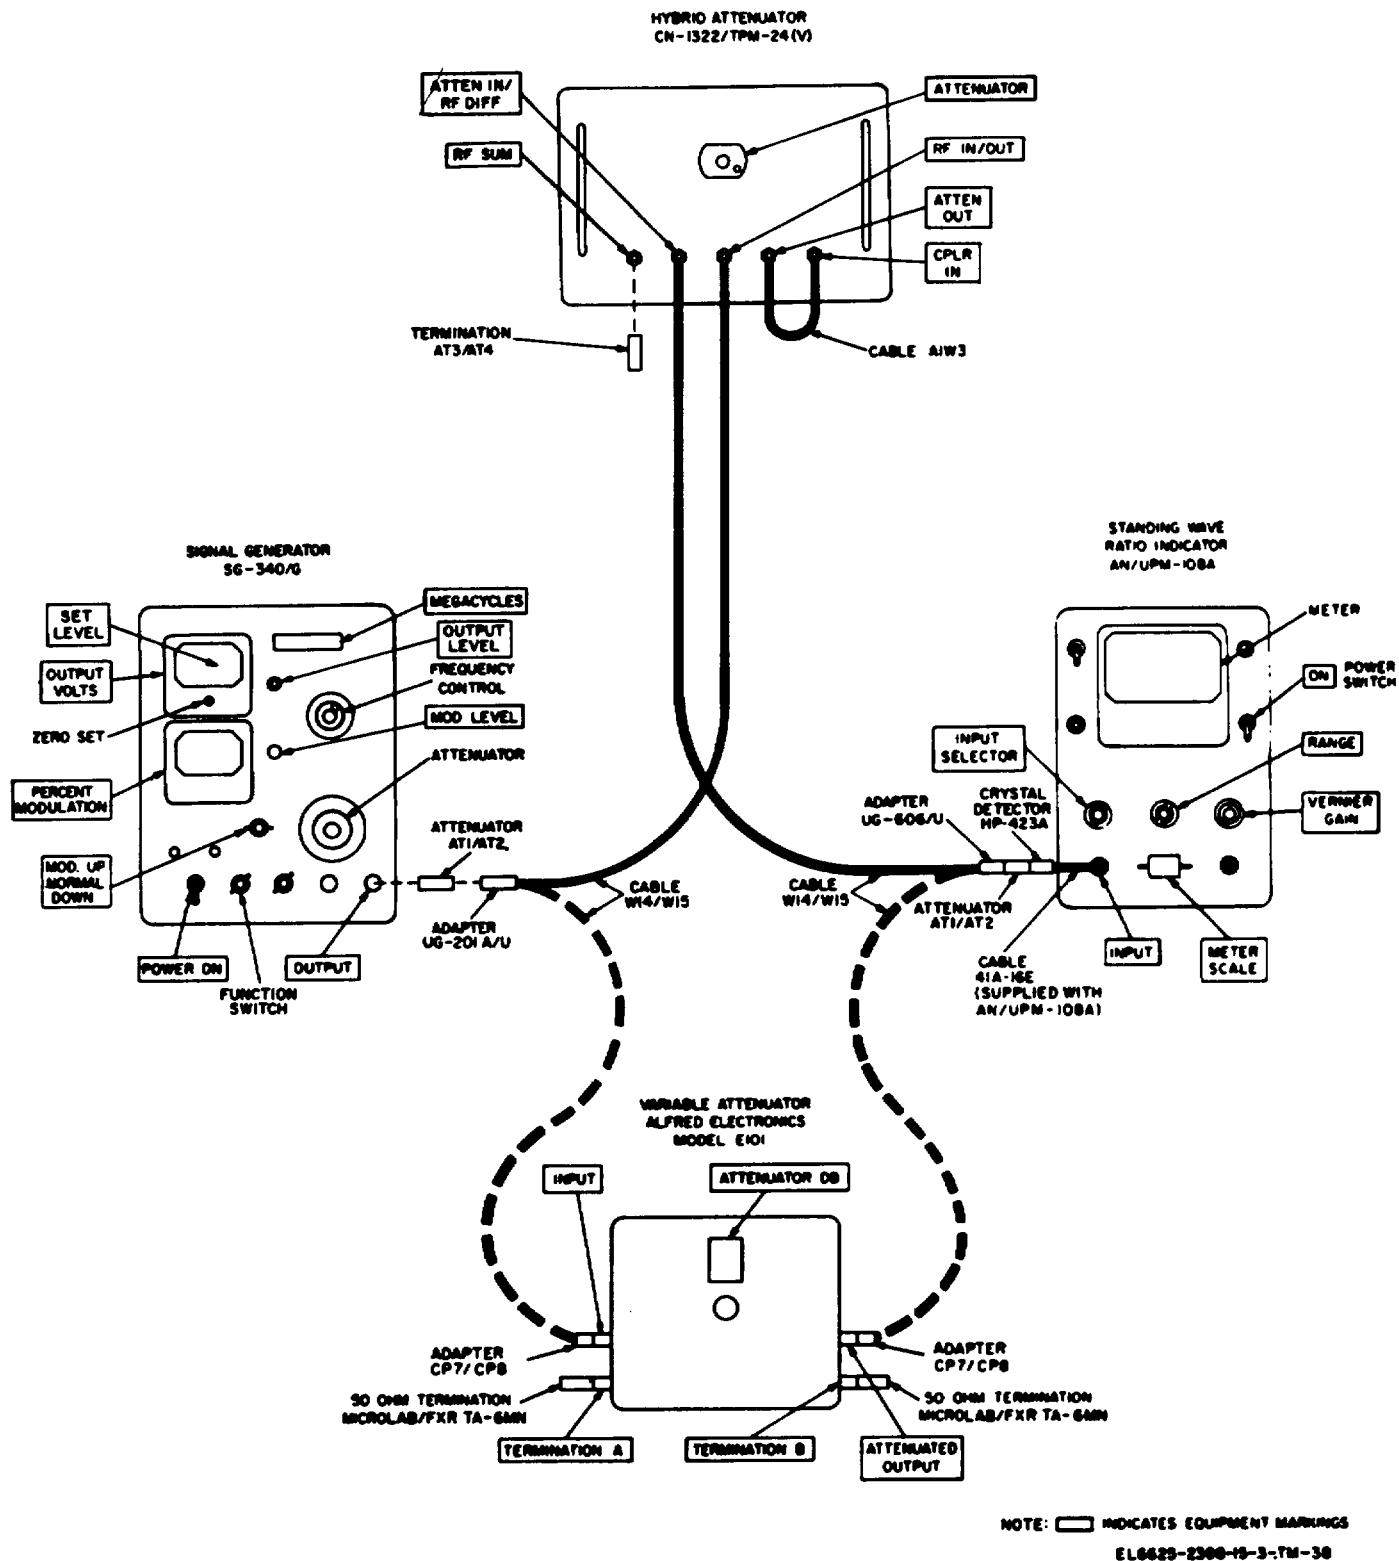

Figure 8-4. Hybrid Attenuator difference channel (between RF IN/OUT and ATTEN IN/RF DIFF connectors) insertion loss, test connections.
- (3) Standing Wave Ratio Indicator AN/UPM-108A.
- (4) Crystal Detector HP-423A.
- (5) Adapter UG-201A/U.
- (6) Adapters CP7/CP8 (2).
- (7) Fixed Attenuators AT1/AT2(2).
- (8) Termination AT3/AT4(1).
- (9) 50-ohm Terminations (2), Microlab/FXR TA-6MN.
- (10) Cables W14/W15(2).
- (11) Cable A1W3.
- (12) Adapter UG-606/U.
*b. Test Connections and Conditions.* Initially connect the equipment as shown in solid lines, figure 8-4. Disconnect the hybrid attenuator and connect the variable attenuator (connections shown in broken lines) as-directed in the procedure below.